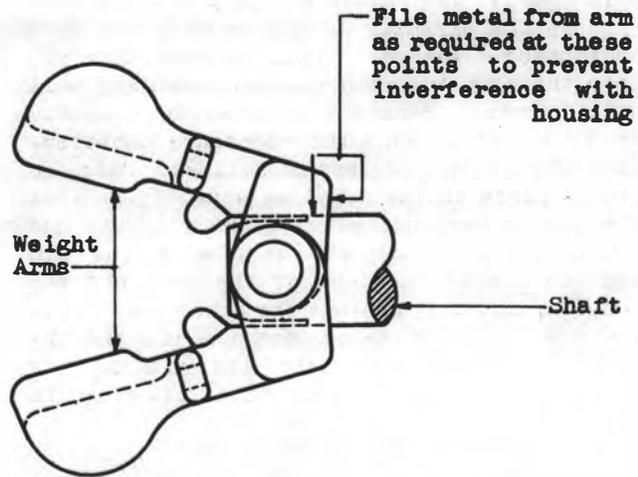

Fig. 76B Weight Arms of Cast Weight Alarm Mechanism
3.20 Governor: To replace a governor of either type of alarm mechanism, remove the cover as outlined above and remove the governor housing mounting screws with the 4-inch regular screwdriver. If a governor of the cast weight alarm mechanism is to be replaced, remove the cotter pin and springs with the P-long-nose pliers. Substitute the new part. If this part interferes with the housing, file off a portion of the arm as shown in Fig. 76B. Remount the springs and insert the cotter pin and spread the ends to secure it in place. If the governor of a link-type alarm mechanism is to be replaced, remove the clamping screws with the 4-inch regular screwdriver and slide the governor off the shaft. Substi-